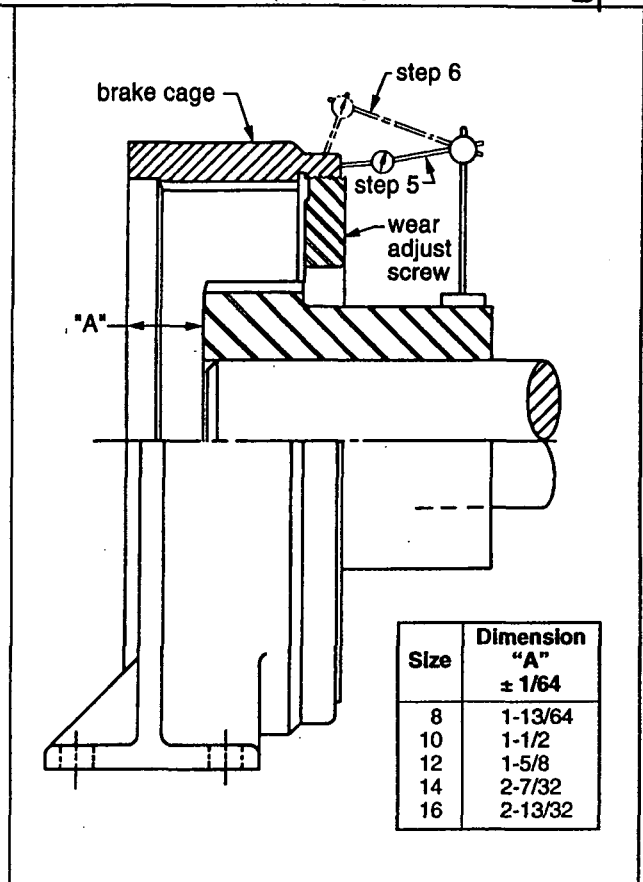

Figure 2
1. Make a temporary lead wire connection and energize unit. Insert (4) manual release bolts clamping armature to magnet body, de-energize unit and disconnect lead wires.
4. With shaft leveled and aligned to machine base as desired install brake cage to Dimension "A" as shown on Figure 2.